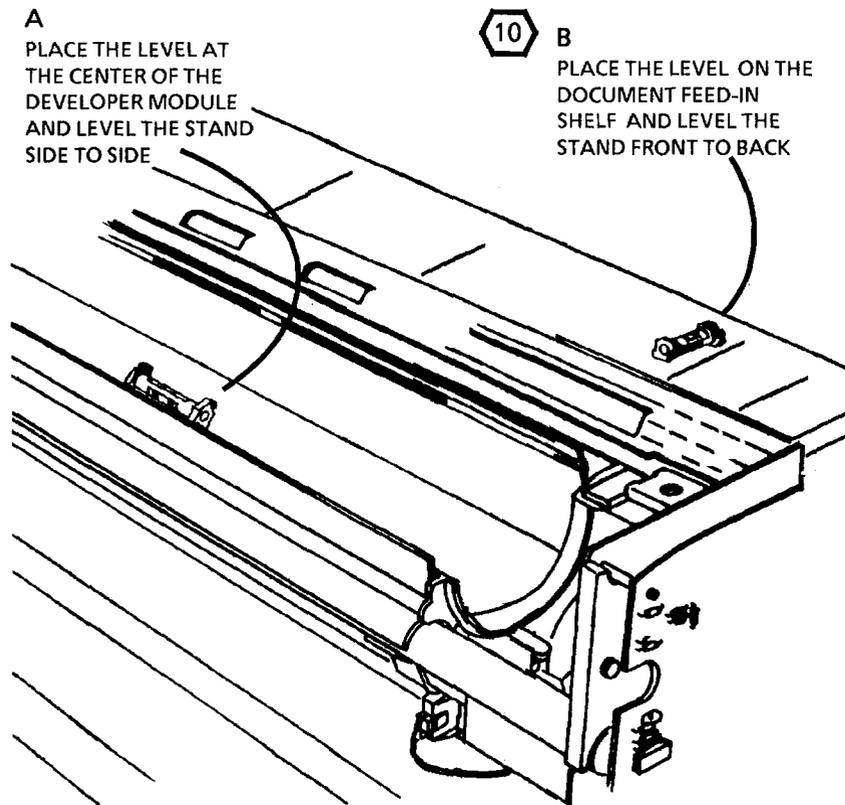

Figure 18. Level the Copier
31. (FIGURE 18): LEVEL THE COPIER.